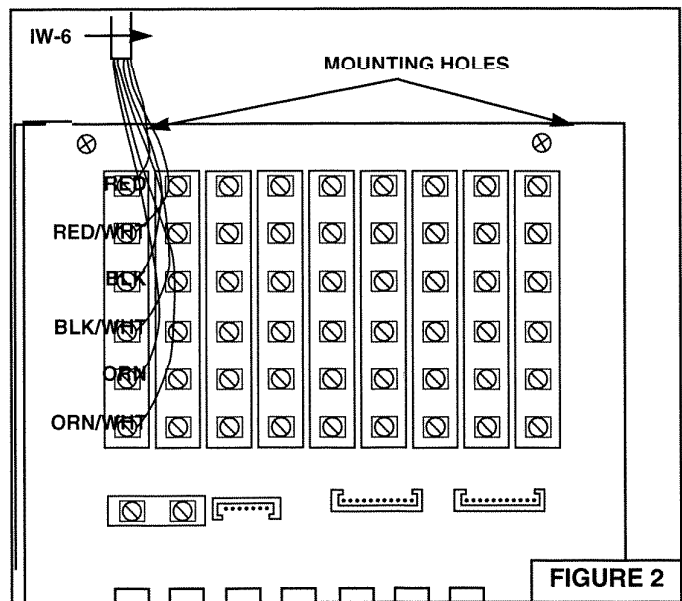

FIGURE 2
2. Refer to Figure 2. Connect the IW 6 cable from each remote to the appropriate set of terminal screws at the master station's terminal board. When connecting the cable to the terminal board, be sure to observe the matching of all color codes.